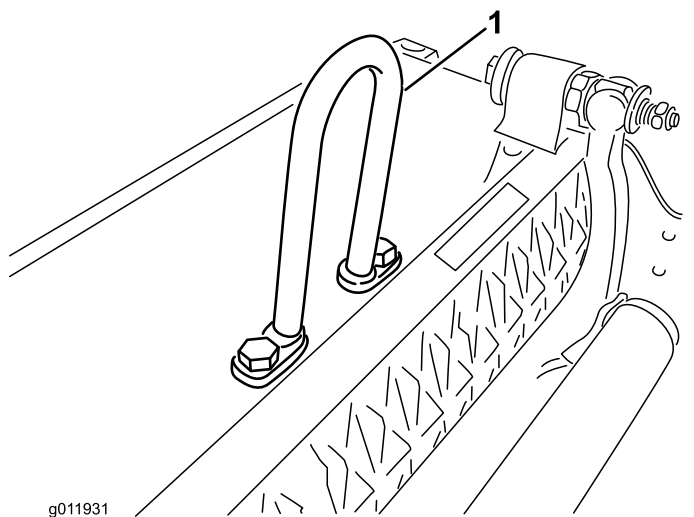

Figure 5
- A **hoop link** (Part No. 105-5740) as shown in Figure 5 is required for the Greensmaster 3000, 3000-D, 3050, 3100, 3150, and 3150-Q traction units (it is supplied with the above Greensmaster traction units).